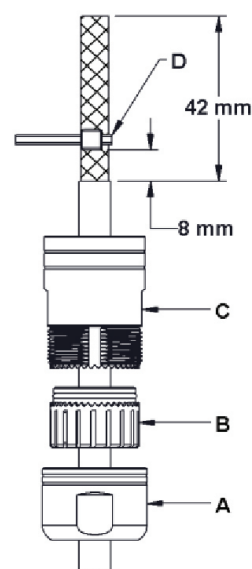

Figure 1
1. Slide seal-nut (A), cable grommet (B), and backshell (C) onto cable as shown in Figure 1.
2. Remove outer cable jacket per dimension (42mm) shown in Figure 1. Make sure exposed shielding is not nicked or cut.
3. Accurately locate and tighten tie wrap (D) 8mm from cable jacket (Figure 1).